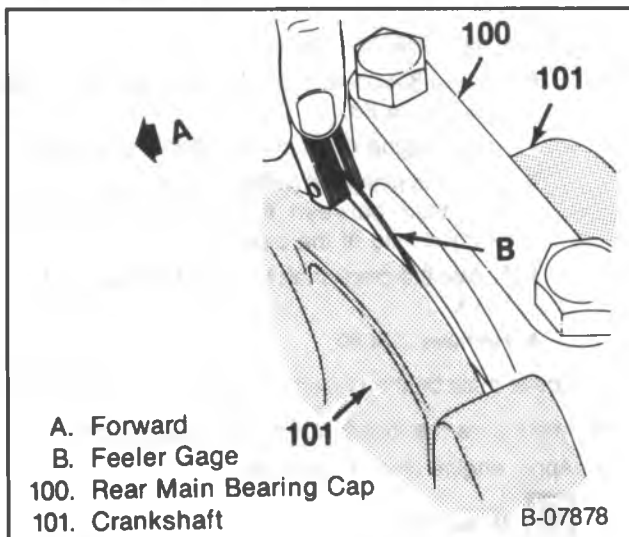

Figure 34 — Measuring Crankshaft End Play
- With the crankshaft forced forward, measure at the front end of the rear main bearing with a feeler gage (figure 34). The proper clearance is 0.002-0.006-inch.